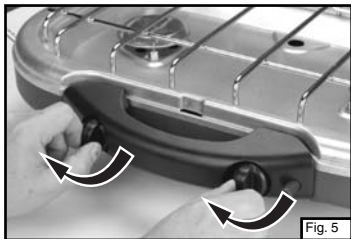

Fig. 5
■ Close both burner valves firmly. (Fig. 5)